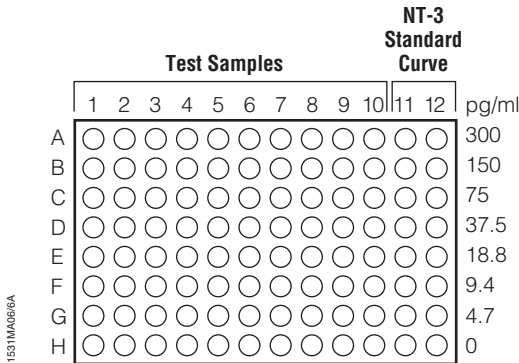

Figure 2. Recommended ELISA plate format for NT-3 standard curve and test samples.
1. Following plate blocking, flick out the well contents over a sink. Slap the plate 3 times upside down on a paper towel to remove residual liquid, and wash once with TBST wash buffer as described in Section 5.C, Step 1. Designate two columns of wells (16 wells) for the standard curve. To prepare the NT-3 standard curve within the assay plate, add 100 μ l/well of the Block & Sample 1X Buffer to wells in rows B through H in the two columns designated for the standard curve (Figure 2).
3. Immediately perform serial 1:2 dilutions (100 μ l/well) in the two columns designated for the standard curve. Mix by pipetting before transferring to the next well. In the last set of wells for the standard curve, do not add any NT-3. The final concentrations (in duplicate) in the NT-3 control columns will be 0–300pg/ml (Figure 2).